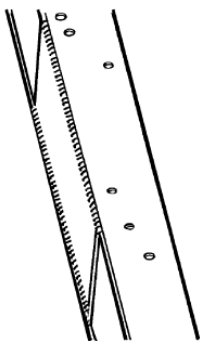

Figure 3
6. The next step is to box the rails. The edges of two layers of metal probably don't line up very well on the frame flanges. Grind them down so they are flush and straight, and the boxing plates fit tight against them. (If the boxing plates fall into the frame rails, the rails are still too wide. Repeat step 5.) **CAUTION:** Do not grind too much material off the flanges. The finished boxed rails should end up being 2-5/8 inches wide in the new crossmember area. The rest of the rail is not as critical. See **Figure 3**.